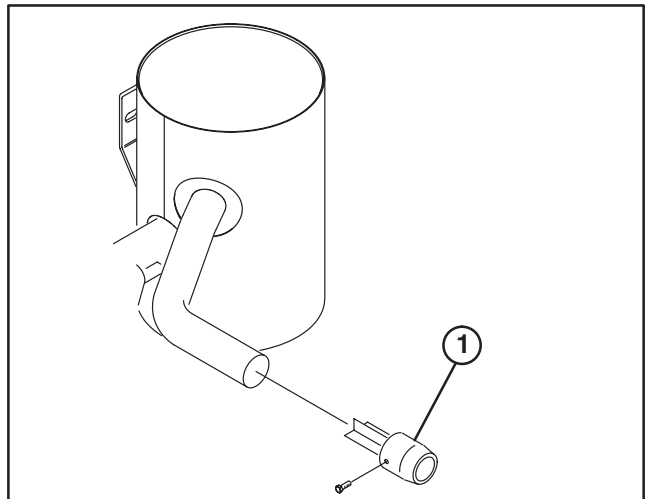

Figure 20
70. Insert spark arrester into muffler exhaust pipe and secure with screw (Fig. 20).